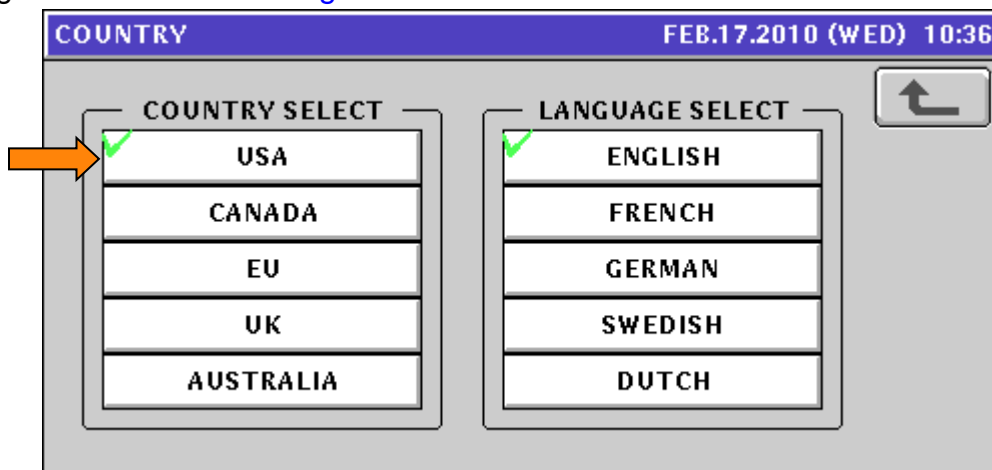

Figure 49. Country Select: USA
- e. Confirm **ENGLISH** is selected. See Figure 49.
- g. Select **USA**. See Figure 49.